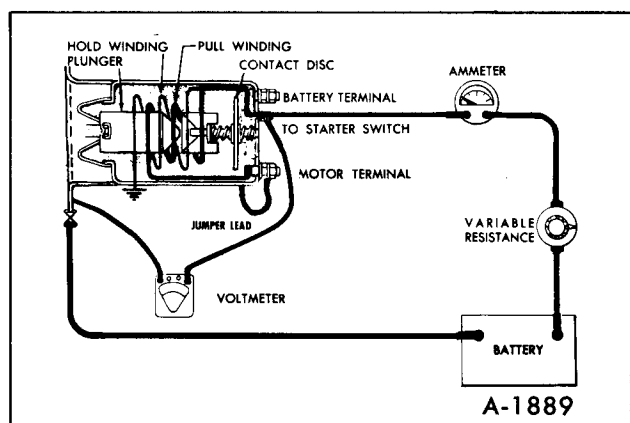

Figure 76—Checking Solenoid Wiring
e. Check the current draw of the solenoid winding as follows: (figure 76).